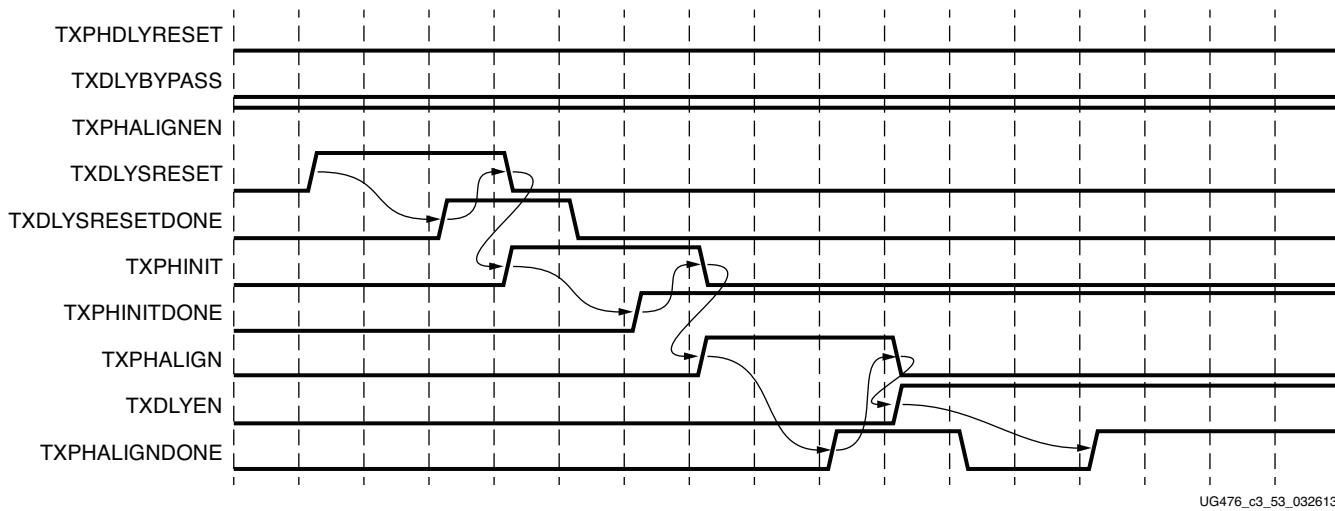

Figure 3-20: TX Buffer Bypass Example—Single-Lane Manual Mode (GTH Transceiver Only)
Figure 3-20 shows the required steps to perform the manual TX phase alignment and use the TX delay alignment to adjust TXUSRCLK to compensate for temperature and voltage variations.
Notes relevant to **Figure 3-20**:
1. The sequence of events in **Figure 3-20** is not drawn to scale.